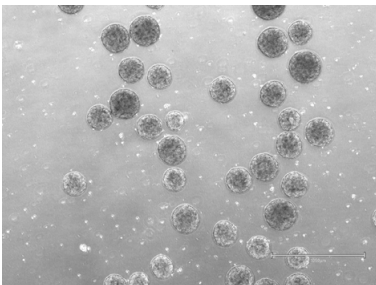

Figure 2. Neural induction at day 0. PSC spheroids grown in StemScale medium after 2 days in suspension culture.
1. After passaging, maintain PSC spheroids in 2 mL of StemScale medium for 2 days. Average spheroid diameter at the time of induction should be between ~200 μm and 280 μm . See Figure 2 for an example of PSC spheroids at day 0 of induction.